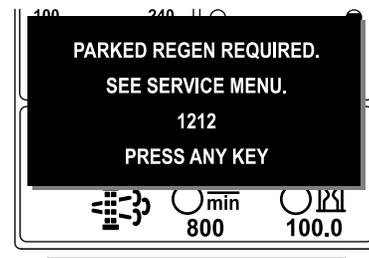

Figure 18
- Parked regeneration required ADVISORY #1212 (Figure 18)